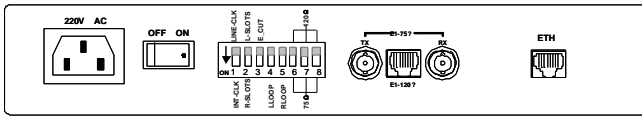

Figure 3 AC input rear panel of FE1/100BASE-TX Bridge
- The AC input rear panel of FE1/100BASE-TX Bridge is shown in figure 3.
The others are the same as in figure 3.
See figure 3 about the description of AC input rear panel of FE1/100BASE-TX bridge for the functions of every